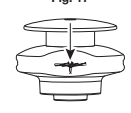

Fig. 19
5. Push the trimmer line until it lies flat against the cutting head (Fig. 19). Make sure the two lengths of cutting line are of equal length. If they are not, adjust until they are.